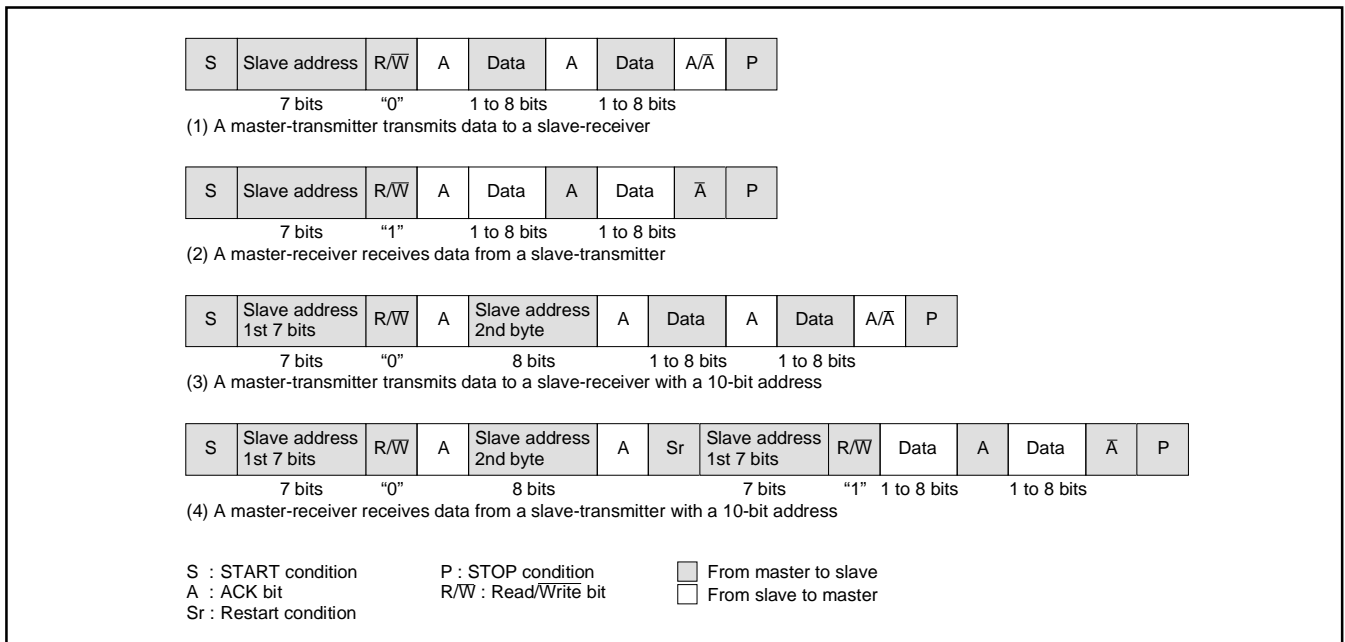

Fig. 8.6.12 Address Data Communication Format
To support the 7-bit addressing format, set the 10BIT SAD bit of the I2C control register (address 00DA16) to "0." The first 7-bit address data transmitted from the master is compared with the high-order 7-bit slave address stored in the I2C address register (address 00D816). At the time of this comparison, address comparison of the RBW bit of the I2C address register (address 00D816) is not made. For the data transmission format when the 7-bit addressing format is selected, refer to Figure 8.6.12, (1) and (2).
When the first-byte address data matches the slave address, the AAS bit of the I2C status register (address 00D916) is set to "1." After the second-byte address data is stored into the I2C data shift register (address 00D716), perform an address comparison between the second-byte data and the slave address by software. When the address data of the 2nd byte matches the slave address, set the RBW bit of the I2C address register (address 00D816) to "1" by software. This processing can match the 7-bit slave address and R/W data, which are received after a RESTART condition is detected, with the value of the I2C address register (address 00D816). For the data transmission format when the 10-bit addressing format is selected, refer to Figure 8.6.12, (3) and (4).